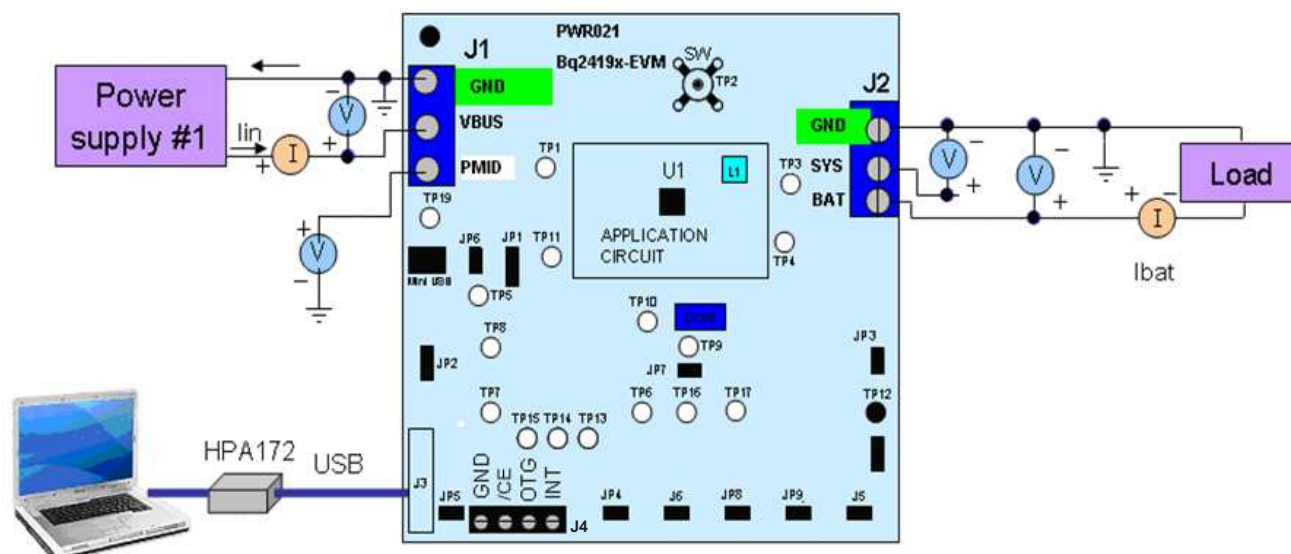

Figure 2. Original Test Setup for PWR021 (bq24x9xEVM)
4. Turn on the Load, set to constant voltage mode and output to 2.5 V. Turn off (disable) Load. Connect Load in series with a current meter (multimeter), ground side, to J2 (BAT+ and GND) as shown in Figure 2.